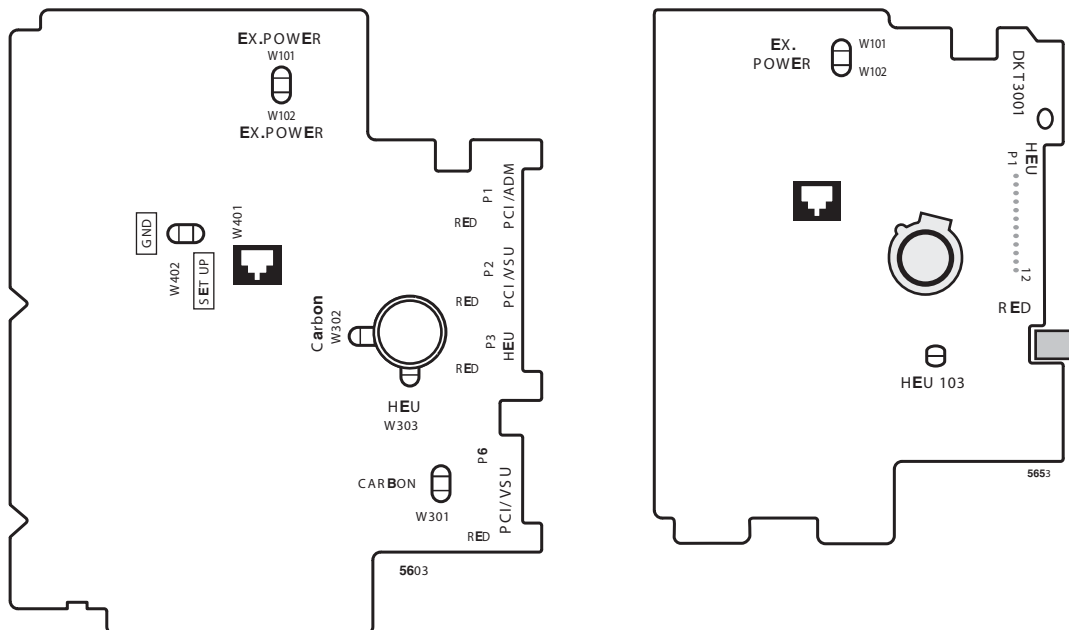

Figure 8-19 DKT3010, DKT3020, DKT3014 Strap and Connector Locations Figure 8-20 DKT3001 BHEU Connector Location
4. Connect the BHEU integrated wire plug to P3 (HEU) on the telephone base PCB (see Figure 8-19). Note the location of the red wire